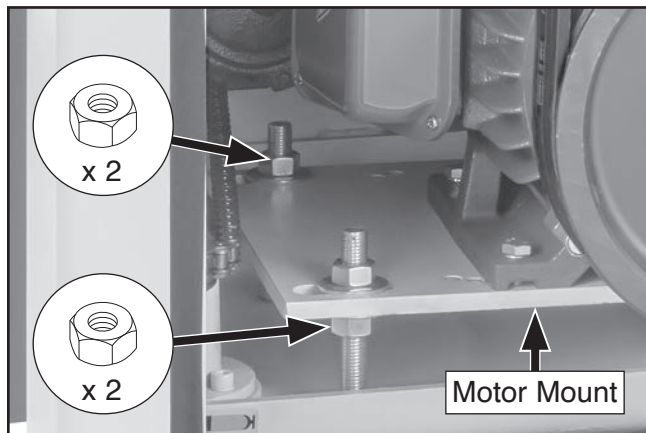

Figure 75. Location of motor mount nuts.
4. Loosen both top motor mount nuts (see **Figure 75**).
5. Rotate both bottom nuts (see **Figure 75**) until V-belts have approximately $\frac{3}{4}$ " of deflection.